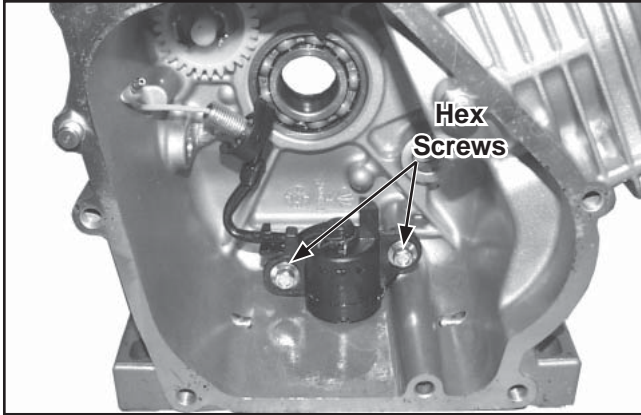

Figure 9-53. Removing Oil Sentry™ Float Switch.
3. Remove the two hex screws securing the Oil Sentry™ float switch to the crankcase. Remove the float switch assembly. See Figure 9-53.